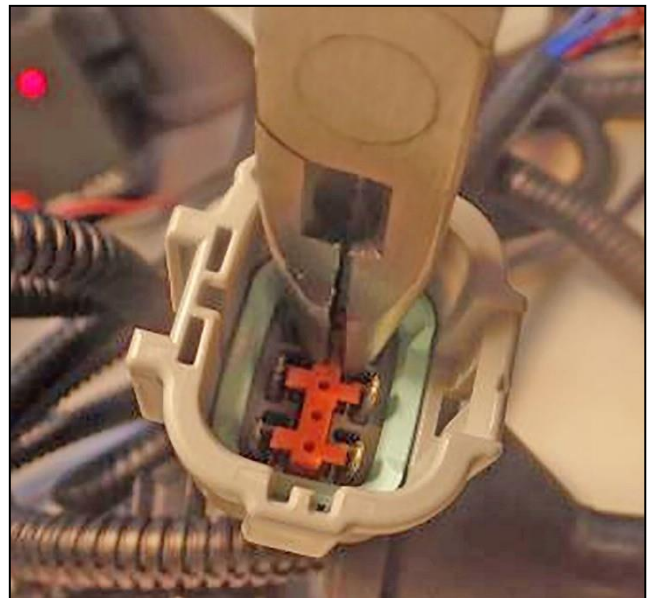

Figure 22
24. Insert the retainer using a suitable pair of needle nose pliers (Figure 22).